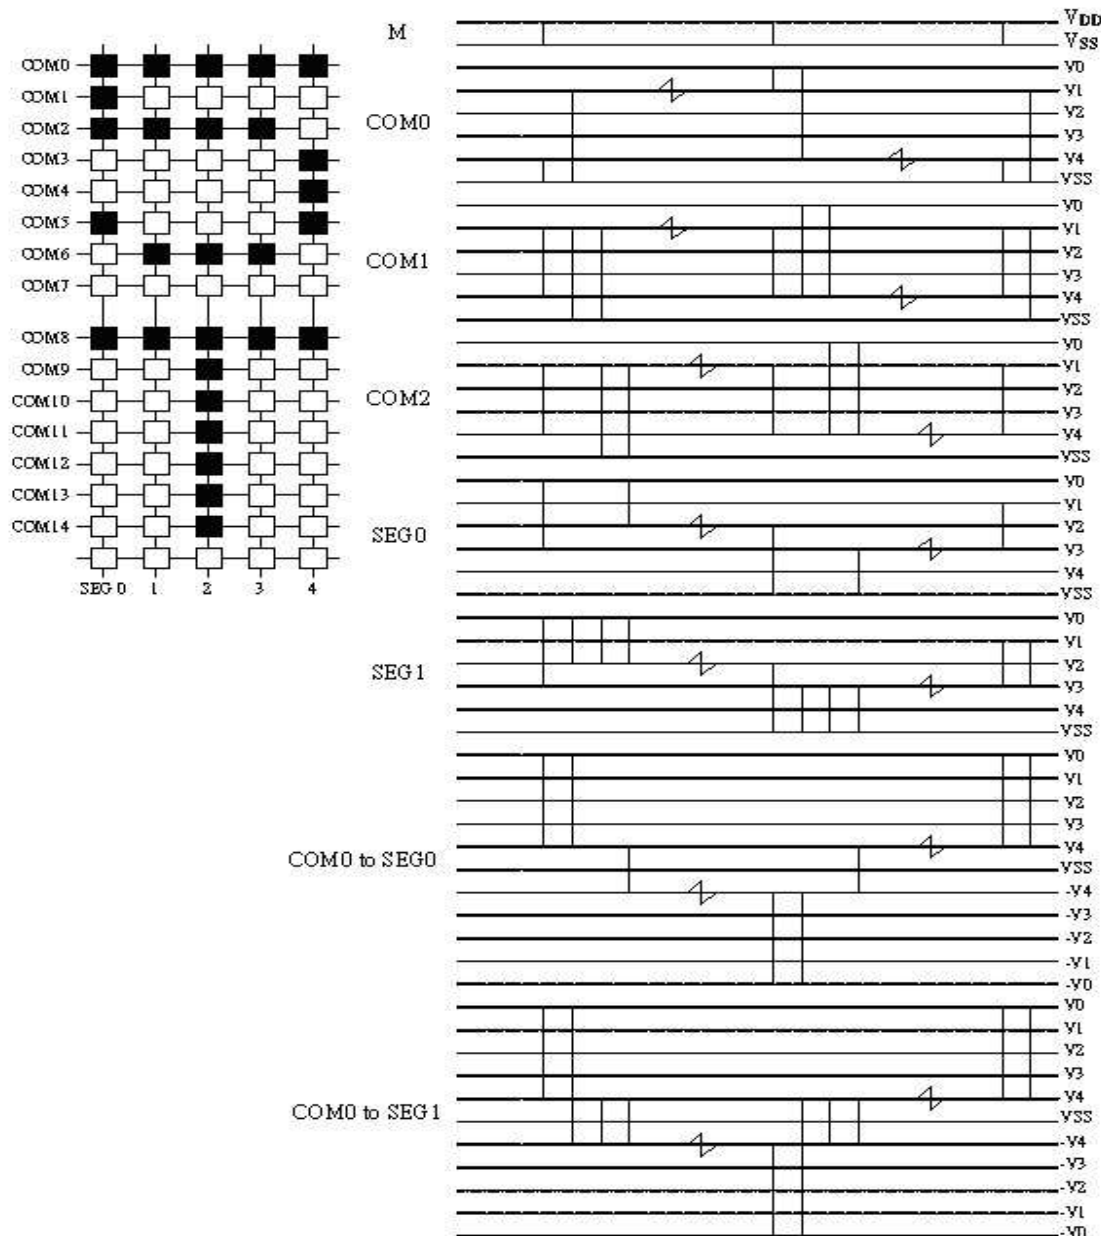

Figure 16. COM and SEG output waveform
The combination of the display data, the COM scan signal, and the FRR(M) signal produces the liquid crystal drive voltage output. Figure 16 shows examples of the SEG and COM output waveform.